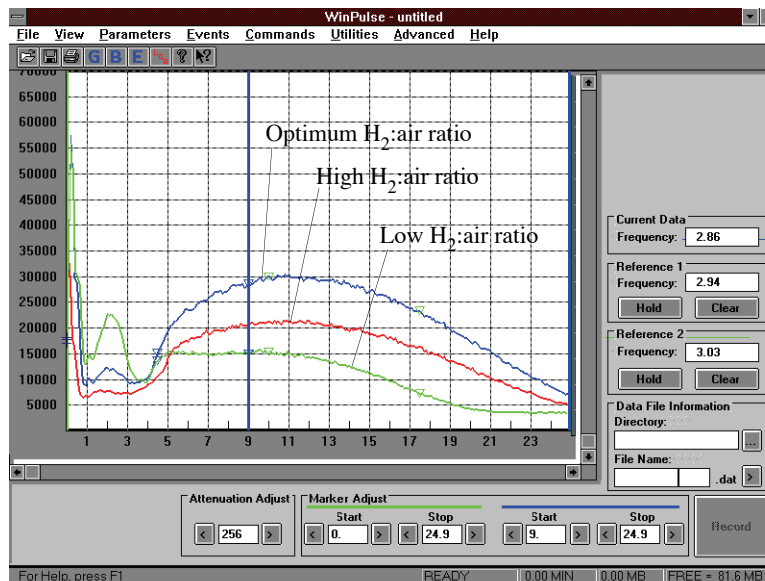

Figure 5.3. Effect of H_2 :air ratio on chemiluminescent intensity and sulfur emission lifetime
9. The H₂:Air 1 flow ratio should have been achieved by the initial H₂ and Air 1 flow settings made prior to starting the PFPD. If this ratio is correct and a sulfur permeation source is connected, a chemiluminescent signal similar to that shown in Figure 5.3 should be observed. In particular, note the start and end of the OH*, C₂*, and CH* emission and the start and end of the sulfur emission. (If using a phosphorus permeation source, the start and end of the chemiluminescent emission occurs considerably sooner than shown in Figure 5.3.)
- Increasing the H_2 flow gradually cools the gas mixture in the combustor until the flame no longer fully propagates into the combustor. This manifests as an increase in the time spread and a decrease in the amplitude of the flame background OH^* , C_2^* , and CH^* emission until the second emission is no longer visible. Simultaneously, the sulfur emission rapidly decreases in lifetime and emission intensity (Figure 5.3). Slowly decreasing the H_2 flow results in the sulfur emission building back up to a maximum of emission amplitude and lifetime. Observe a similar dynamic with a phosphorus emission, but the optimal H_2 :Air 1 ratio mixture for phosphorus is lower (0.9–1.0) than that for sulfur (1.1–1.2).